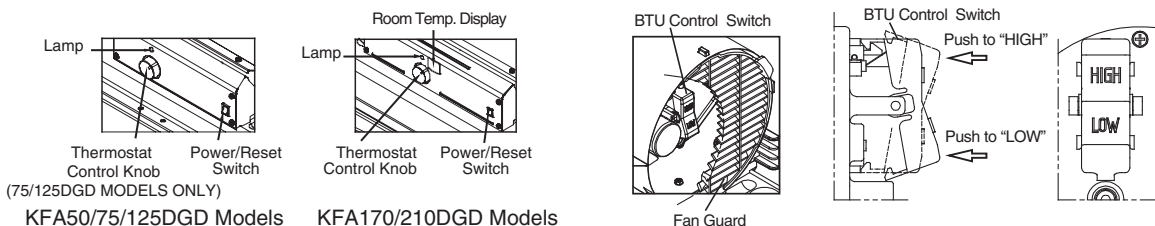

Figure 8. Controls for All Models
Insert screws through handles, fuel tank flange and wheel support frames as shown in Figure 8 and attach nut finger tight after each screw is inserted.
5. Push “BTU control Switch” to desired level “High or LOW” (See Figure 8.) (KFA125/170/210DGD Models Only)